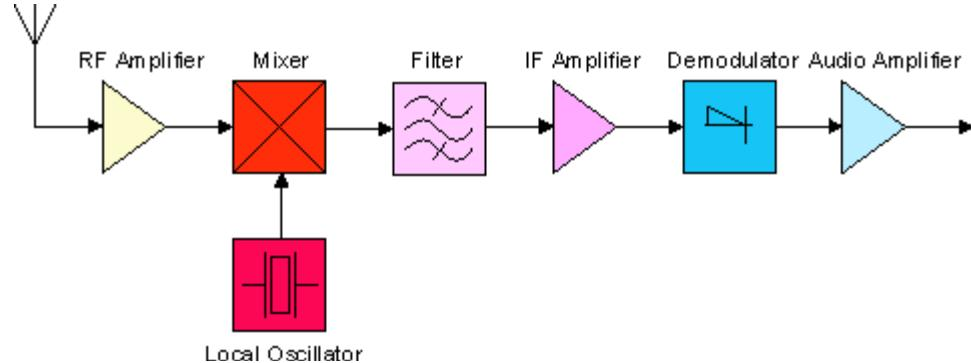

Figure 1: Superhetrodyne Receiver
Fig.1. shows the minimum requirements for a single-conversion superheterodyne receiver design. The following essential elements are common to all superhet circuits: a receiving antenna, a tuned stage which may optionally contain amplification (RF amplifier), a variable frequency local oscillator, a frequency mixer, a band pass filter and intermediate frequency (IF) amplifier, and a demodulator plus additional circuitry to amplify or process the original audio signal (or other transmitted information). To receive a radio signal, a suitable antenna is required. This is often built into a receiver; especially in the case of AM broadcast band radios. The output of the antenna may be very small, often only a few microvolts. The signal from the antenna is tuned and may be amplified in a so-called radio frequency (RF) amplifier, although this stage is often omitted. One or more tuned circuits at this stage block frequencies which are far removed from the intended reception frequency. In order to tune the receiver to a